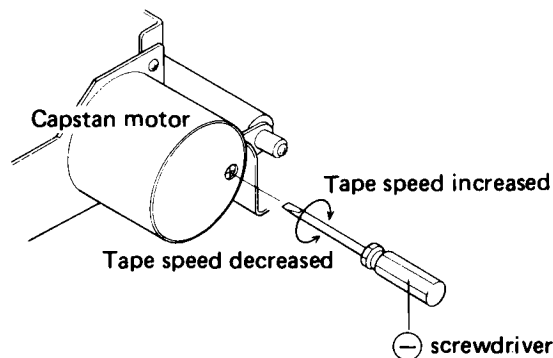

Fig. 12-2 Tape speed adjustment
2. Playback the 3kHz portion of the STD-301 test tape. At the beginning of the tape, the frequency should lie between 2995Hz~3010 Hz, and may be adjusted by turning the variable resistor located in the capstan motor adjustment hole shown in Fig. 12-2. Turning clockwise increases tape speed, while turning counterclockwise decreases the speed.